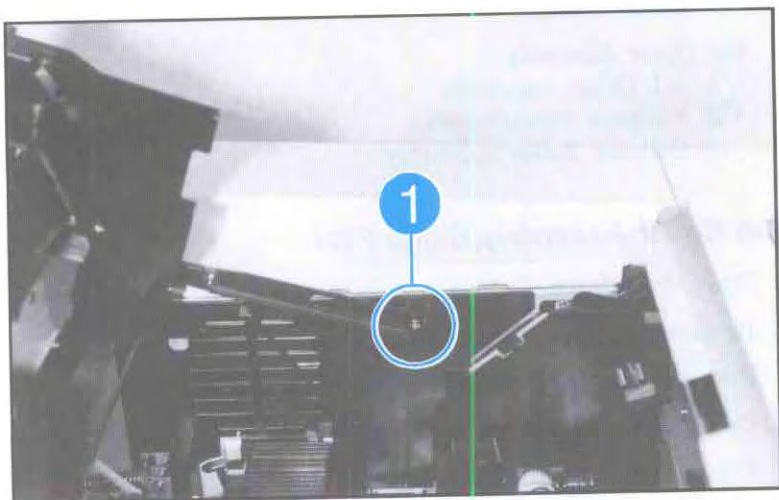

Figure 6-41. Top Cover Support Bracket
3. The (1) screw securing the Top Cover Assembly support bracket (see Figure 6-41, callout 1).
6. Remove the (1) shoulder screw securing the Top Cover Assembly support bracket (see Figure 6-41, callout 1).
1. Release the Top Cover support bracket (see Figure 6-41).